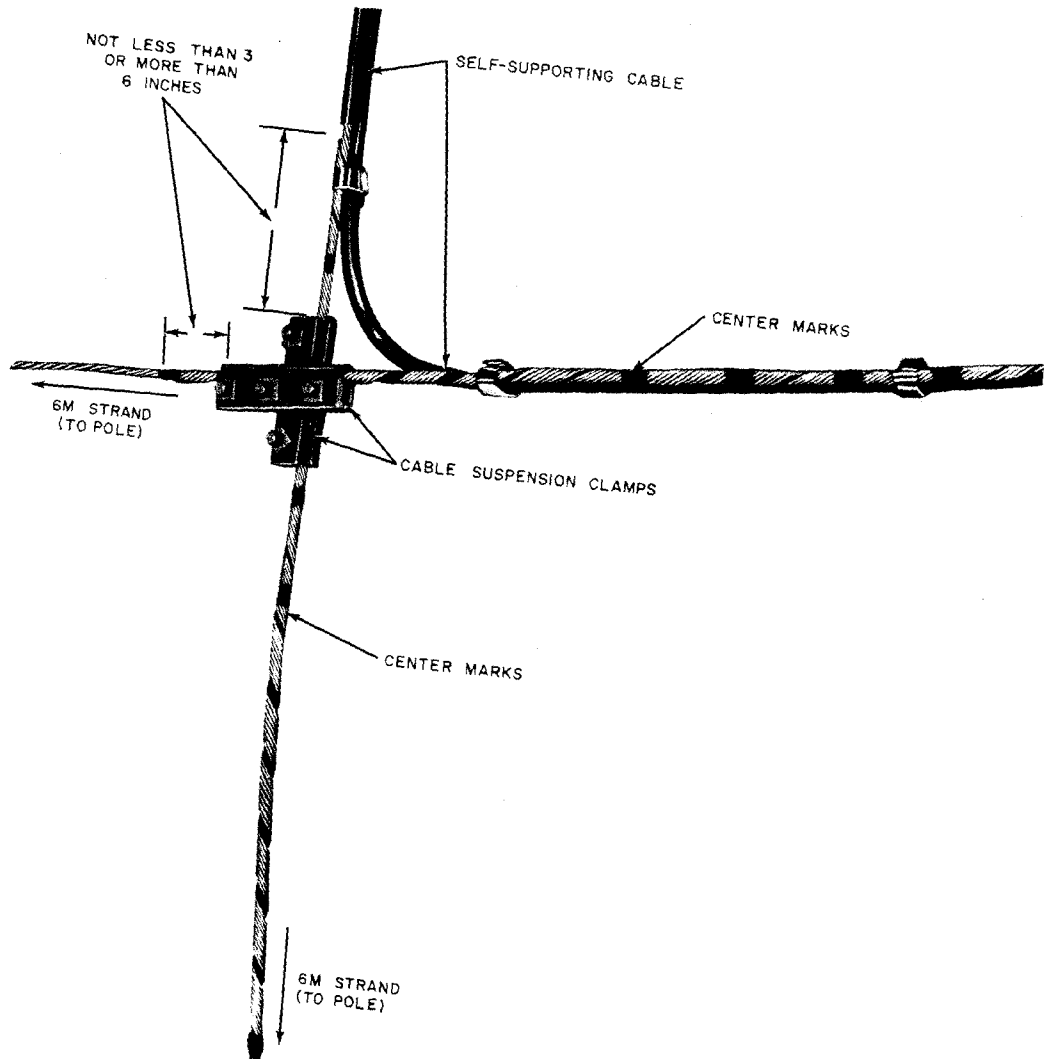

Fig. 10—Strand Crossover Application
4.04 Fig. 10 illustrates the use of the B Strand Reducer in a strand crossover attachment. Place the Cable Suspension Clamps in the areas indicated and place lashed cable supports to support the self-supporting cable where the strand is separated from the cable.